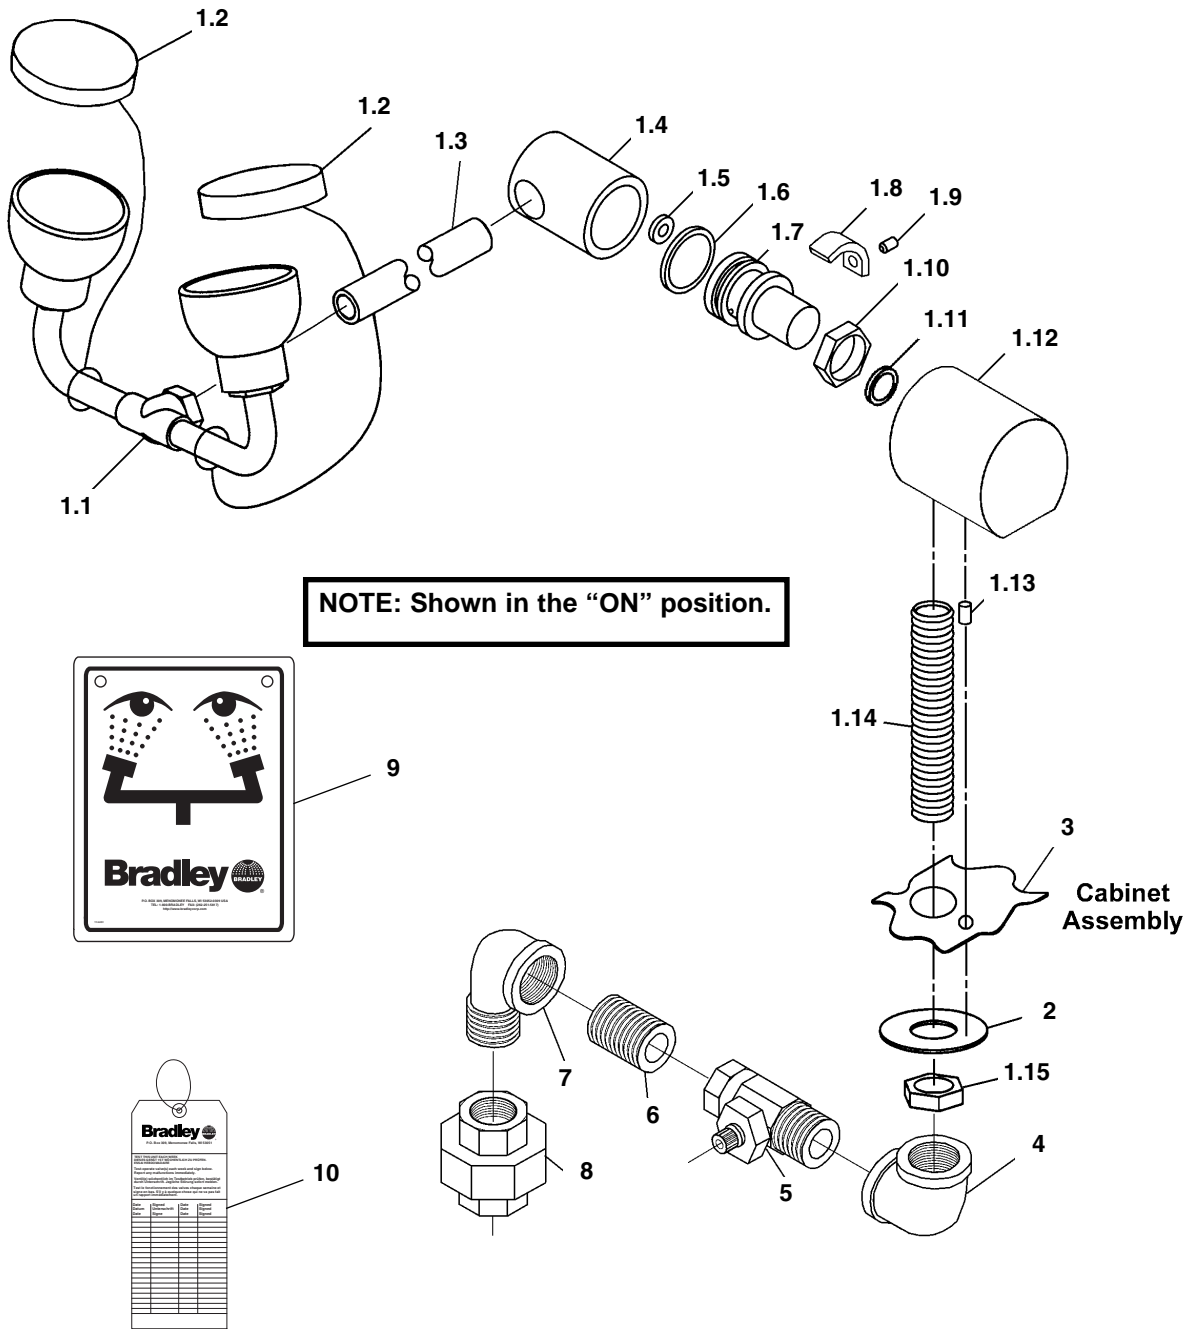

Figure 3b
4. With cabinet door open, connect supply line using the coupling nut and combination tailpiece. Refer to Figure 3a on page 4 (for S19-281) or Figure 3b on page 5 (for S19-291).